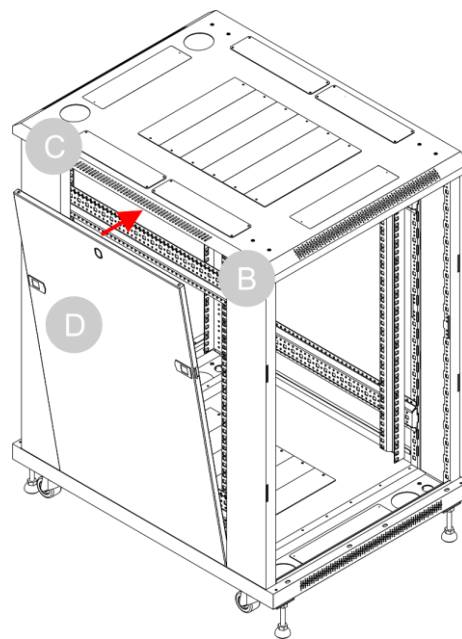

Fig. 36
- 20) Carefully tilt the **side panel (D)** until it is a few centimeters from the **top plate (C)**, as shown in Fig. 36.